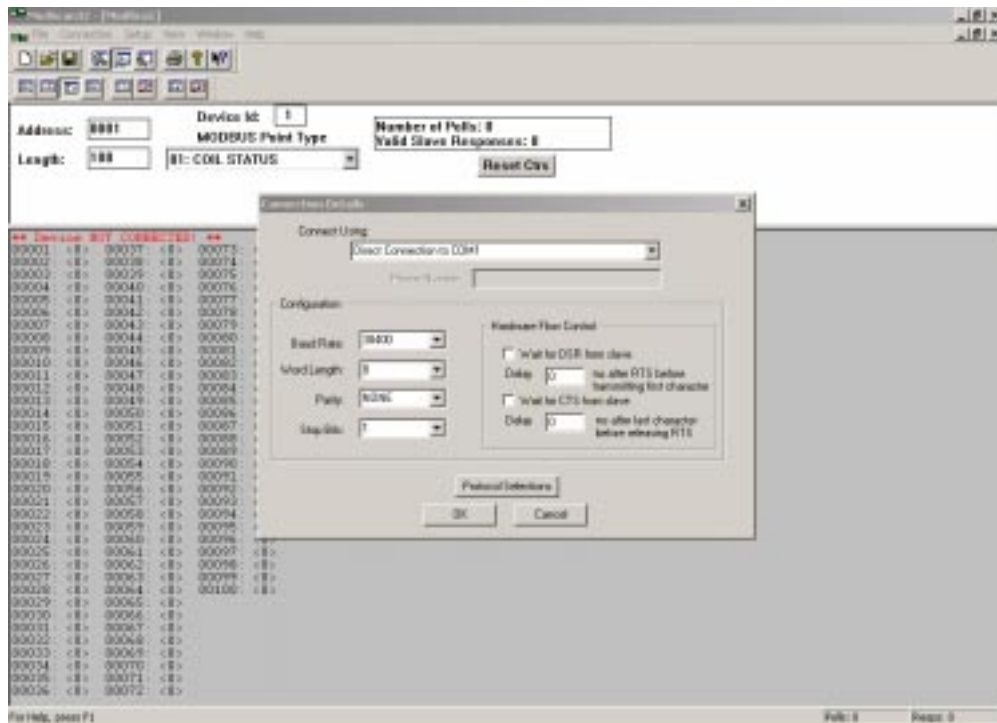

FIGURE 12. FT-10 NETWORK CONNECTION DETAILS DIALOG BOX
1. From the tool bar, select Connection → Connect. The Connection Details dialog box is displayed (see Figure 12). The Device Id is 1.
For FT-10 networks, configuration should be set to Baud Rate: 9600, Word Length: 8, Parity: None, and Stop Bits: 1, as shown in Figure 12.